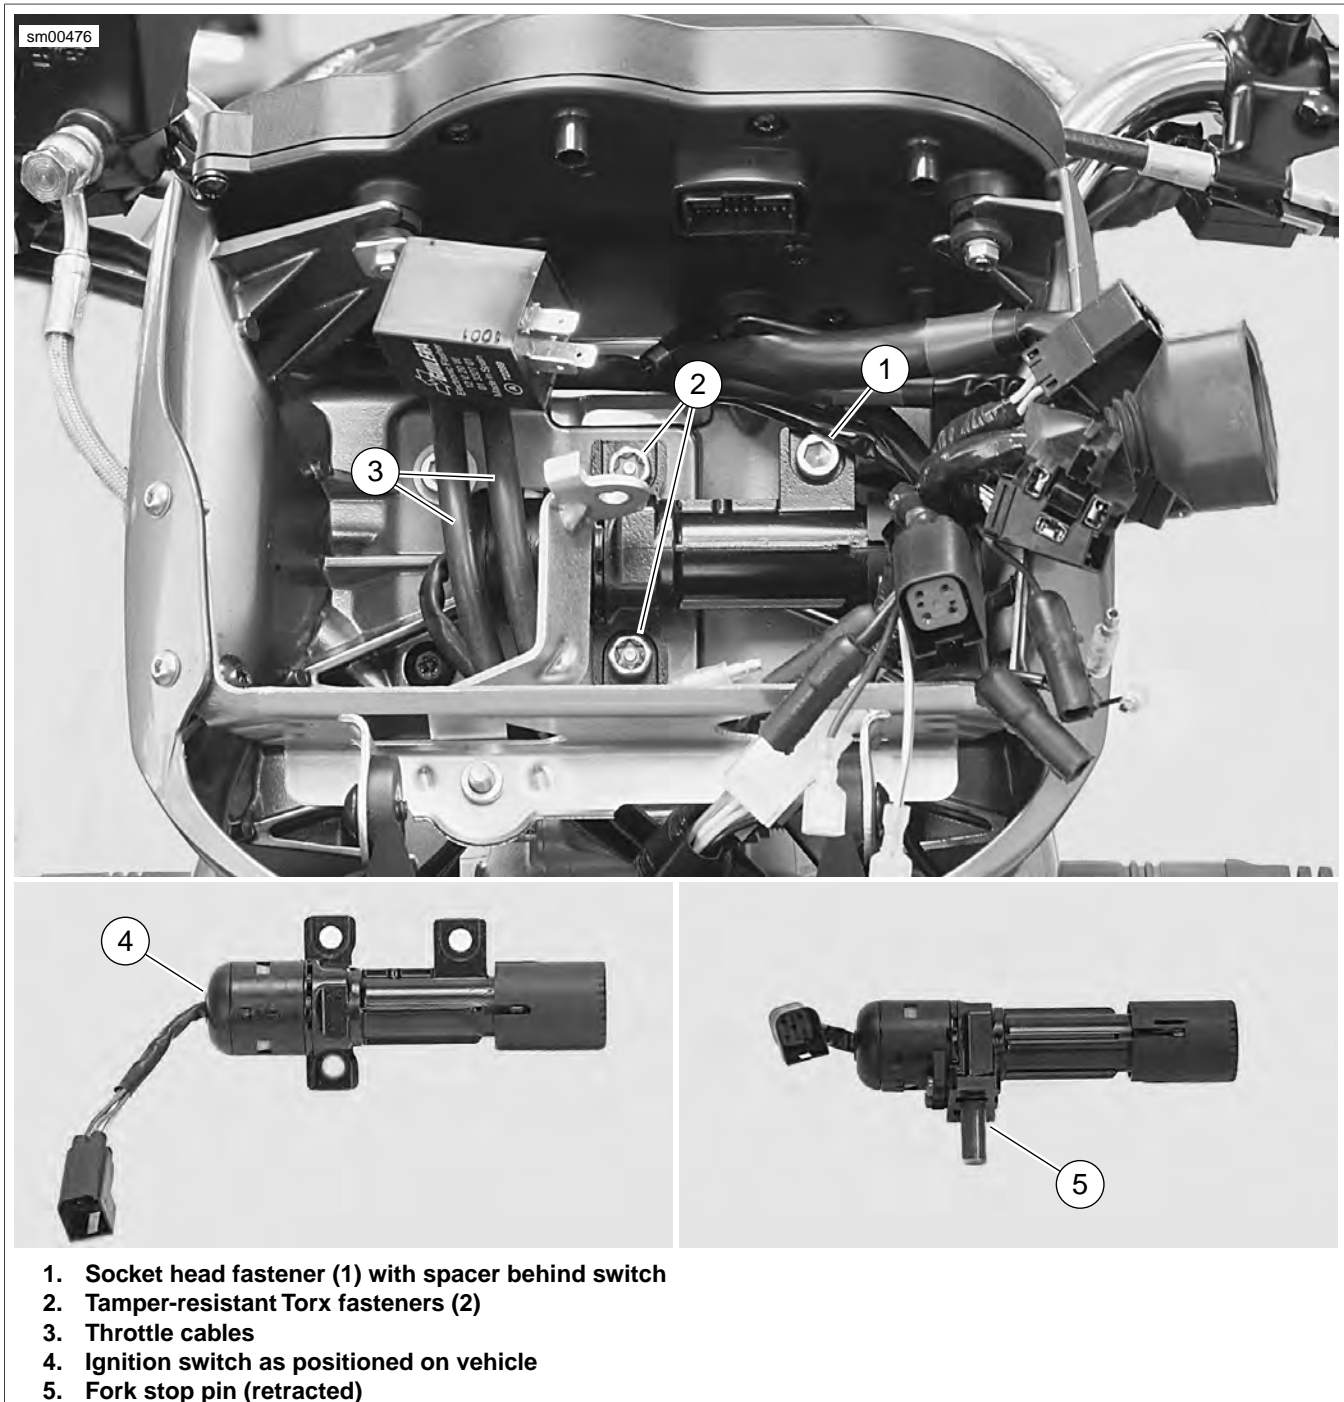

Figure 6-8. Ignition Switch: Lightning (Typical)
7. See Figure 6-8. Use SNAP-ON TAMPER RESISTANT T45 TORX DRIVER (Part No. FTXR45E) to remove the two tamper-resistant Torx fasteners (2) securing ignition switch to upper fork clamp.
8. Remove the final ignition switch fastener (1) along with spacer located behind the ignition switch.
9. While holding the throttle cables (3) to your left (the right side of the vehicle), pull the ignition switch (4) toward you and roll the assembly away from you until the fork stop pin (5) is pointing down.